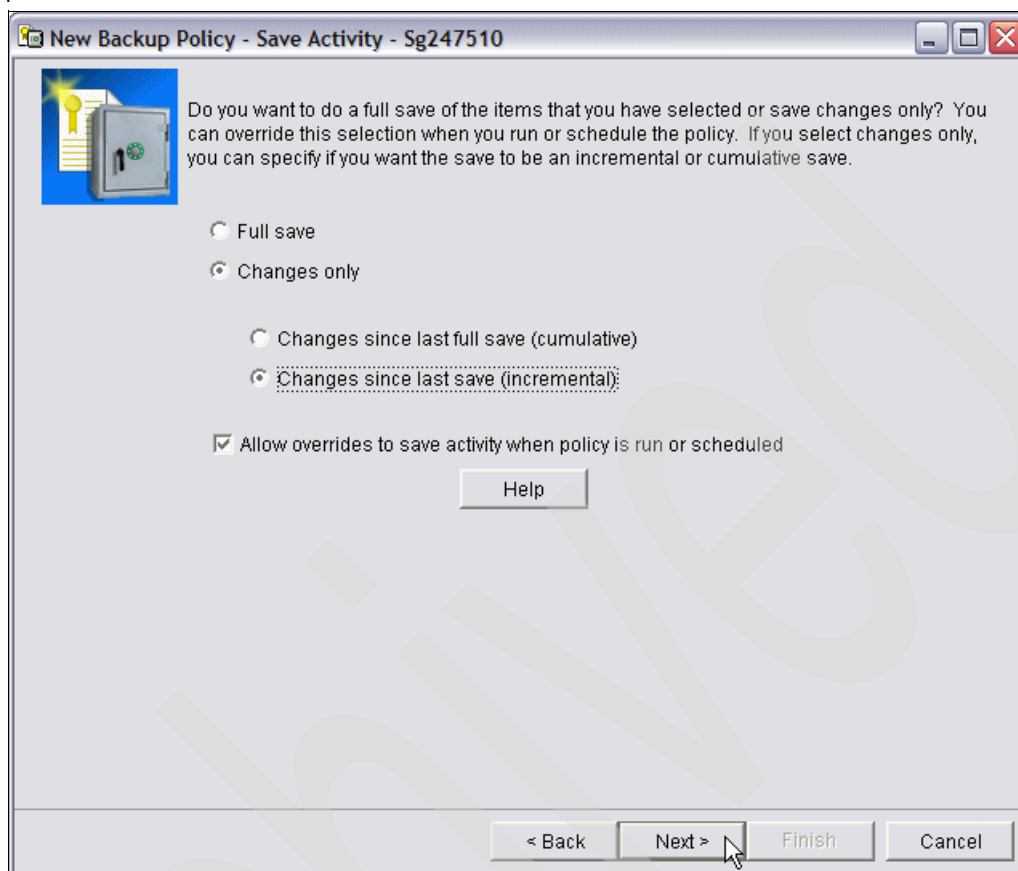

Figure 6-57 New Backup Policy - Save Activity
15. In the next window shown in Figure 6-57, there are several options. You have to carefully consider each of them.